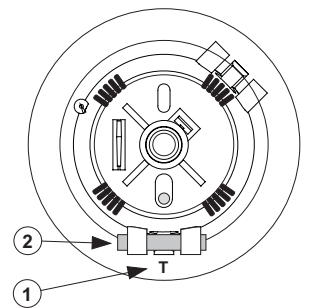

Figure 4: DT-2 on Detector
1. See Figure 4. Place the supplied magnet in the magnet slot, according to the detector type that needs to be tested.